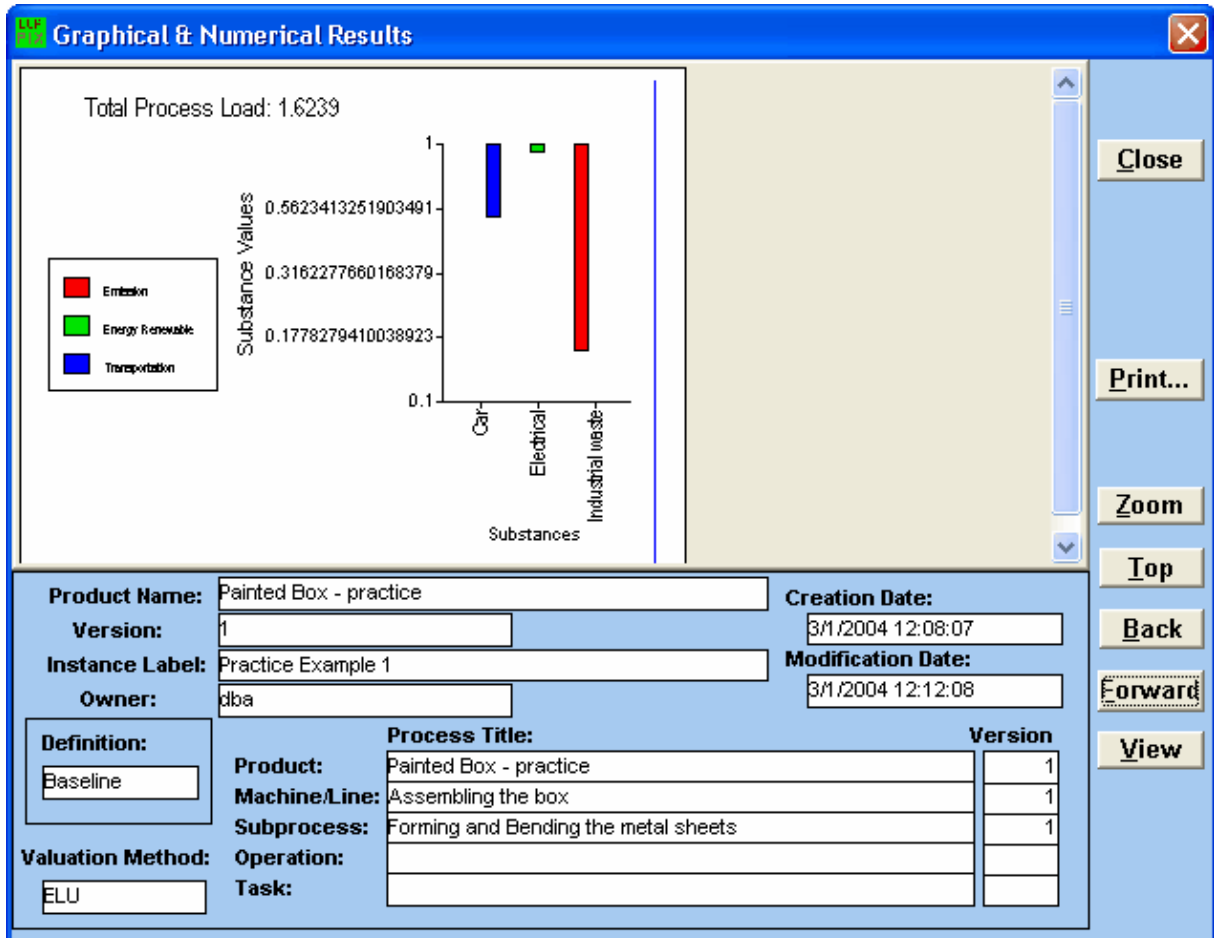
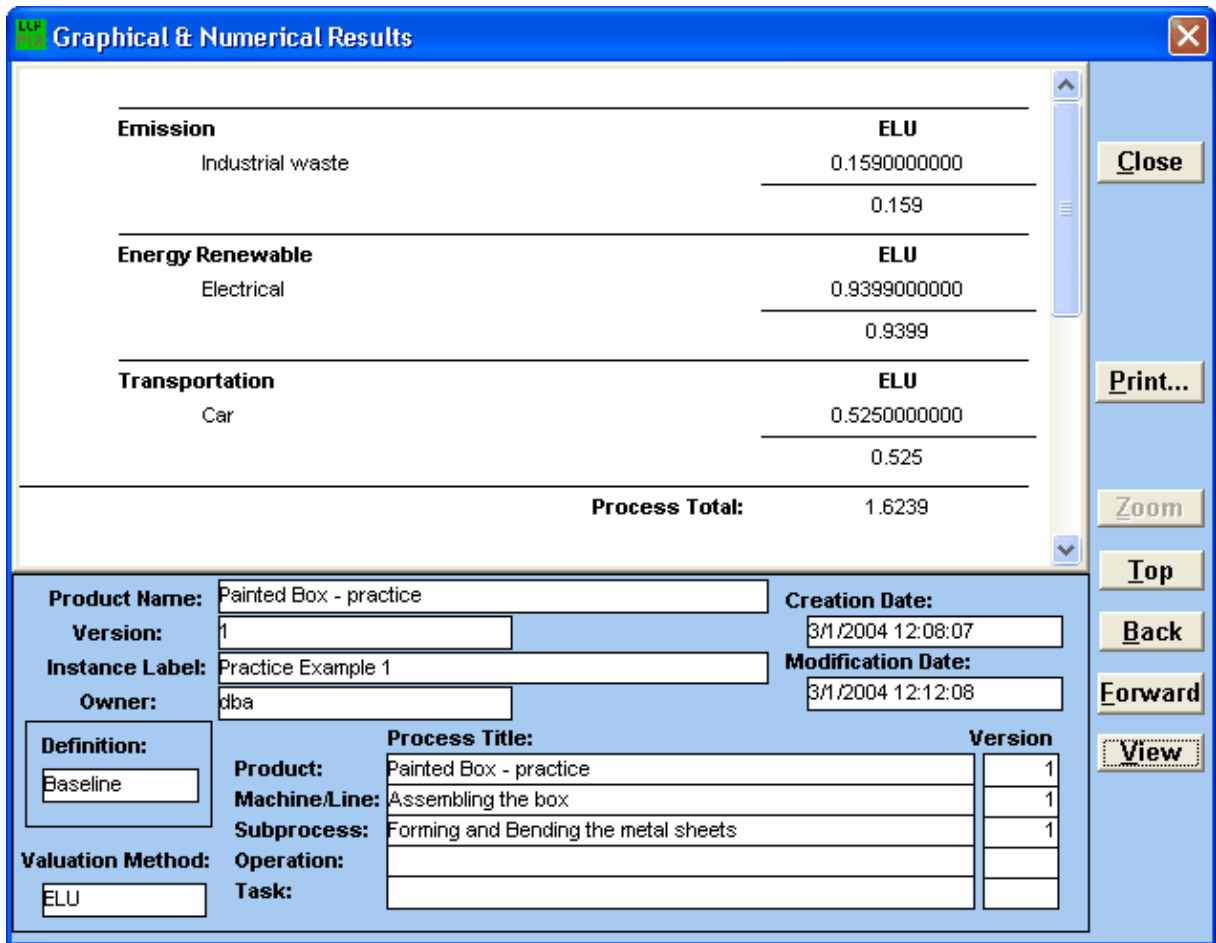

Figure 18: The valuation results for the baseline process "Forming and Bending the Metal Sheets"
Figure 19: Toggling between the bar chart and the numerical report form by using the command VIEW in the Valuation section.
16. It will bring up a window as shown in Figure 18.
17. Notice in Figure 18, the *Definition* of the sub process "Forming and Bending the Metal Sheets" is Baseline. This means that this is the lowest level process. Its load is 0.9399 ELU units. If we click **FORWARD** again, it will lead us into the next baseline process "welding the seams," and so on.
Instead let us click on **VIEW**. (If you did click **FORWARD**, you can come back to the screen in Figure 18 by clicking on **BACK**.) Clicking on **VIEW** shall bring up the screen shown in Figure 19.
18. The screen in Figure 19 shows the same results as in Figure 18, but in a numerical report form. This is especially useful if we want to look at the exact numerical values of the Environmental Loads.